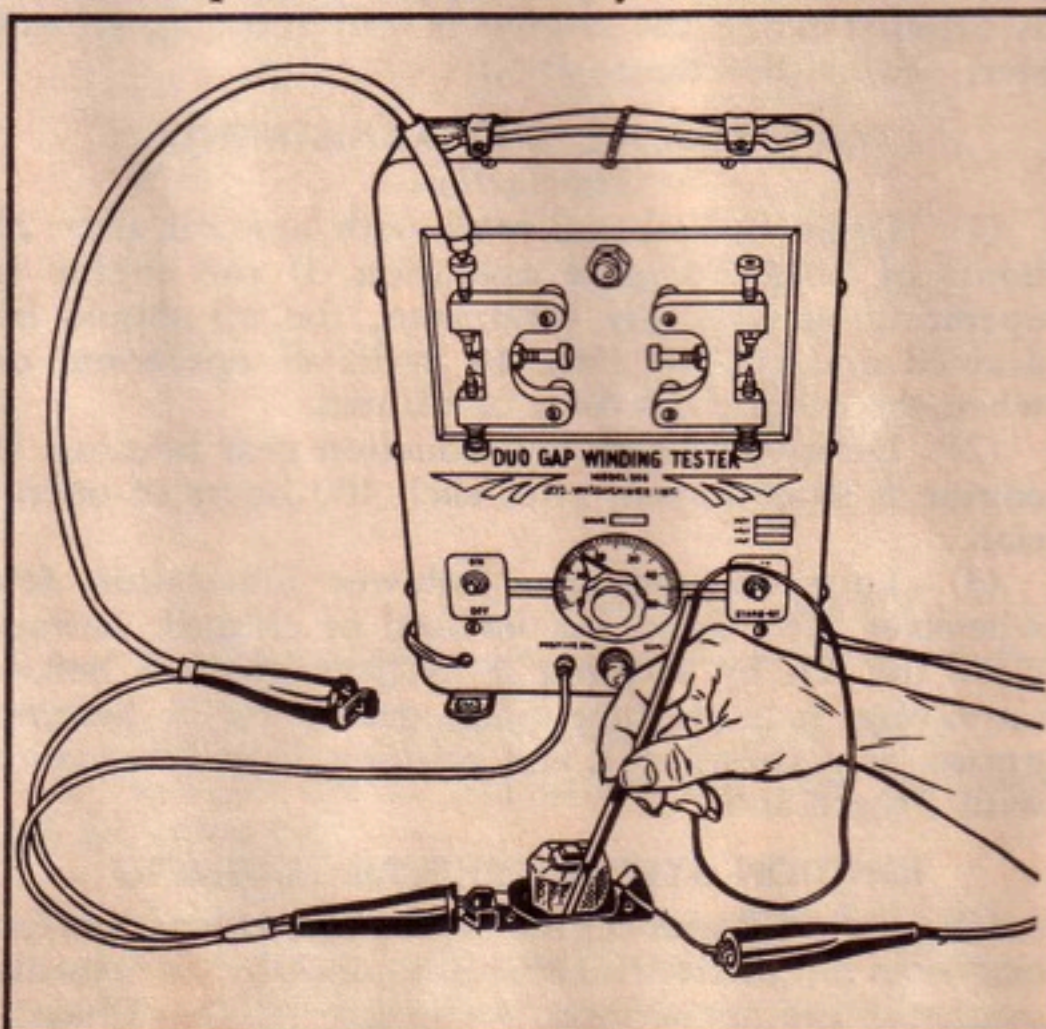

Figure B-11. Testing Outer Insulation of Magnet Coil
(9) Test the outer insulation of the coil for high-tension leaks by using the single prod as shown in figure B-11.
(10) If a weak spot is present in the outer coil insulation, a spark will jump from the coil to the prod when the prod is moved slowly around the coil at a